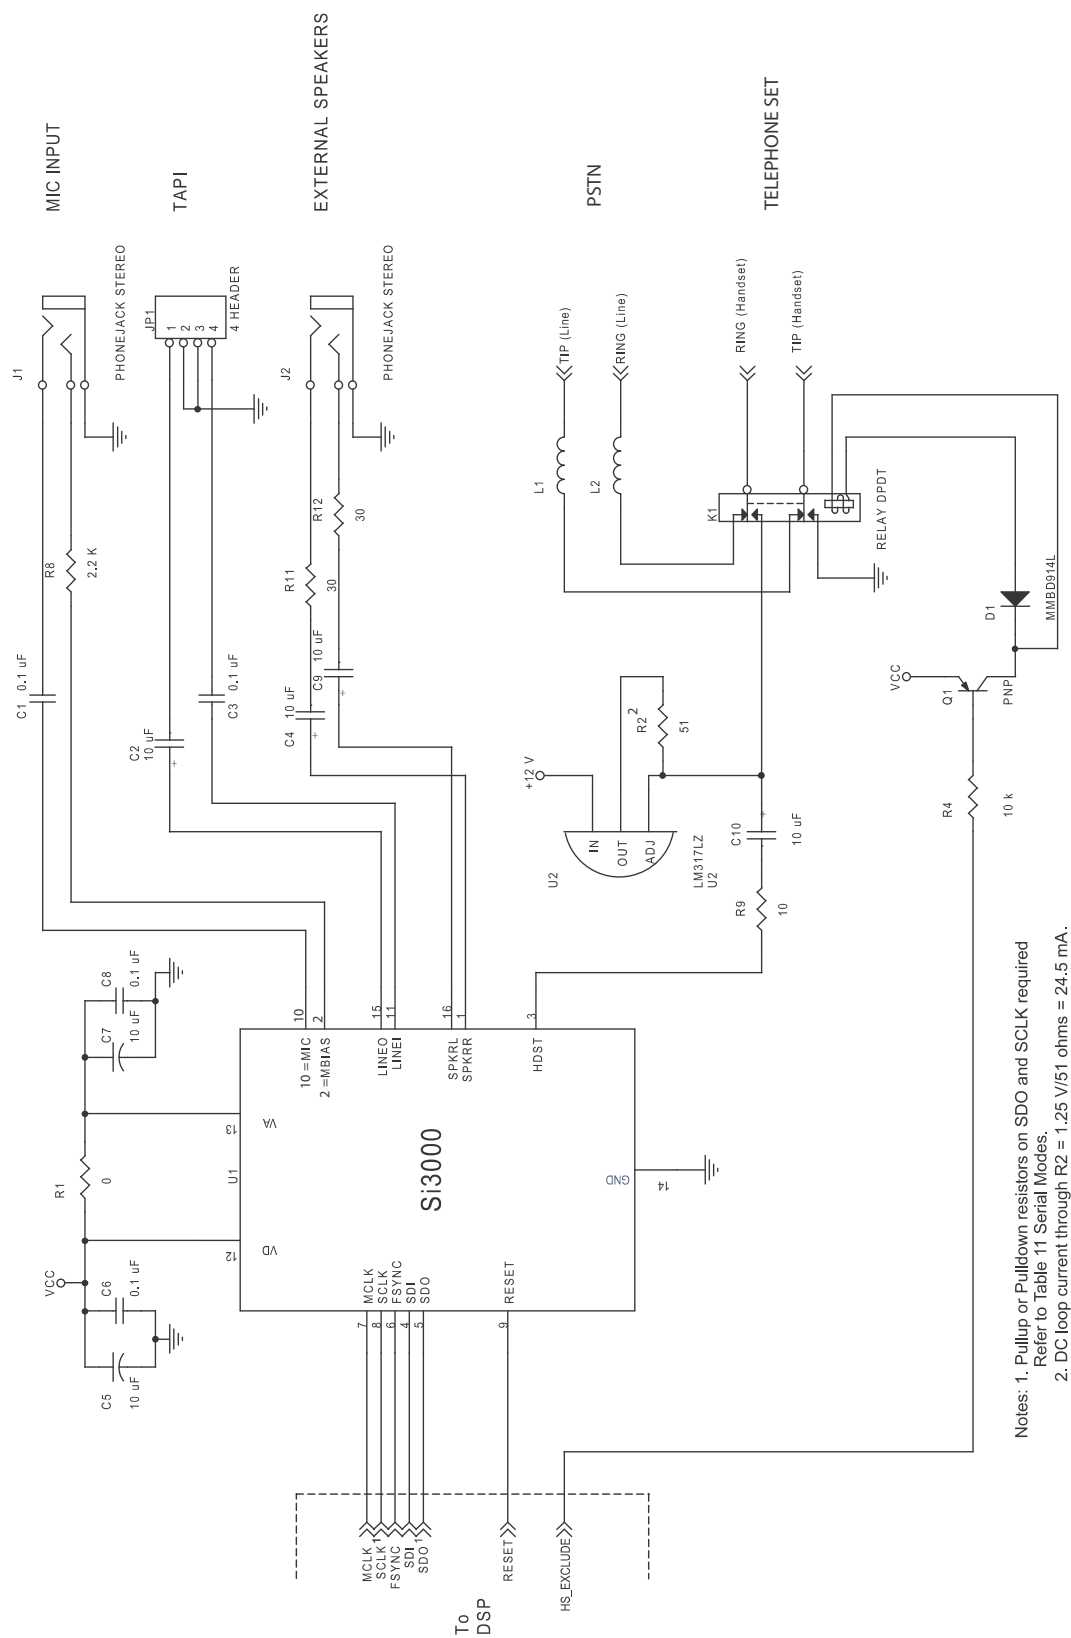

Figure 13. Si3000 Typical Application Circuit
5. These characteristics are determined by external components. See Figure 13.
The Si3000 can be connected directly to the Si3035, Si3034, Si3044, or Si3056 in modem applications requiring a voice channel, or the device can be used as a stand-alone codec in other voice band applications. The Si3000 offers high integration, and it needs only a few low-cost, discrete components as shown in Figure 13.
The typical connection diagram (Figure 13) shows the recommended external analog circuitry for the Si3000. The device supports three mono analog inputs—line level, microphone level, and a handset input. Each of these inputs is provided to a mixer circuit prior to A/D conversion. Each analog input may also be muted by writing the appropriate bits in the control registers. Unused analog inputs should be tied to GND through a 0.1 μ F capacitor. This prevents any DC current flow.
LINEO is a line level analog output signal centered around a common mode voltage. The minimum recommended load impedance is 600 Ω . This output is a fully filtered output with a 1 Vrms full scale range. The only external component required is the 10 μ F DC blocking capacitor shown in Figure 13 on page 12. This output may be muted through the LOM bit in register 6 or attenuated by setting the analog attenuation bits in register 9.
The SPKRL and SPKRR are mono, in-phase, analog outputs capable of driving a small loudspeaker whose impedance is typically 32 Ω (see Figure 13 on page 12). The speaker outputs may be muted through the SLM and SRM bits in the DAC Gain Control register 7 or attenuated by setting the analog attenuation bits in register 9.
The Si3000 has two serial interface modes that support most standard modem DSPs. These modes are selected by the addition of a 50 k Ω pull-down/up resistor on the SDO and SCLK pins as shown in Figure 13 on page 12. The key difference between these two serial modes is the operation of the $\overline{\text{FSYNC}}$ signal. Table 11 summarizes the serial mode definitions.